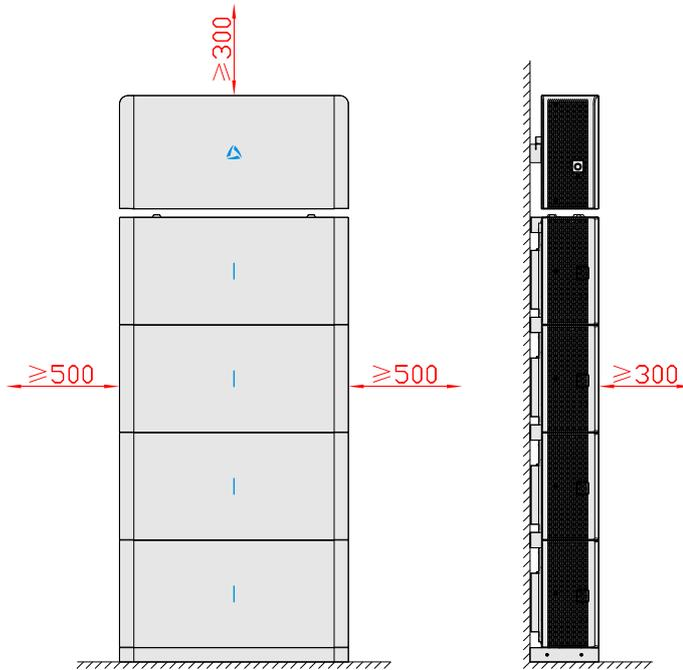

Figure3-3 Installation space (unit: mm)
Keep at least 500mm from the left and right side of the device to other objects, keep at least 300mm from the top of the device to ceiling and keep at least 300mm from front of the device to other objects, which is good for heat dissipation or maintenance, as shown in Figure3-3.
- If the battery packs are installed in 2 piles, the installation space between the 2 piles battery pack should be meet the requirement in Figure3-3.